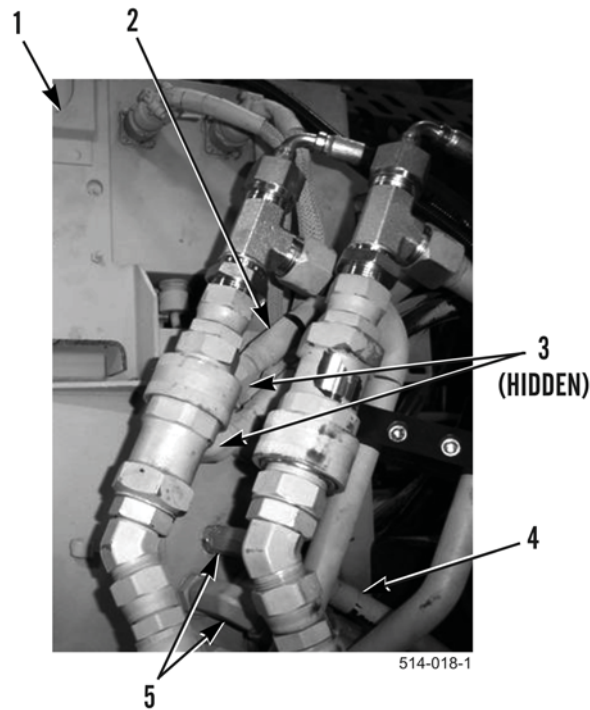

Figure 8. HEMTT M1120A4 Route and Install Hydraulic Hoses.
17. Route four upper hoses (Figure 8, Item 2) in front of stowage assembly to hydraulic control box (Figure 8, Item 1).
18. Install four upper hoses (Figure 8, Item 2) on fittings (Figure 8, Item 3) on hydraulic control box (Figure 8, Item 1).
19. Route four lower hoses (Figure 8, Item 4) under stowage assembly to hydraulic control box (Figure 8, Item 1).
20. Install four lower hoses (Figure 8, Item 4) on fittings (Figure 8, Item 5) on hydraulic control box (Figure 8, Item 1).